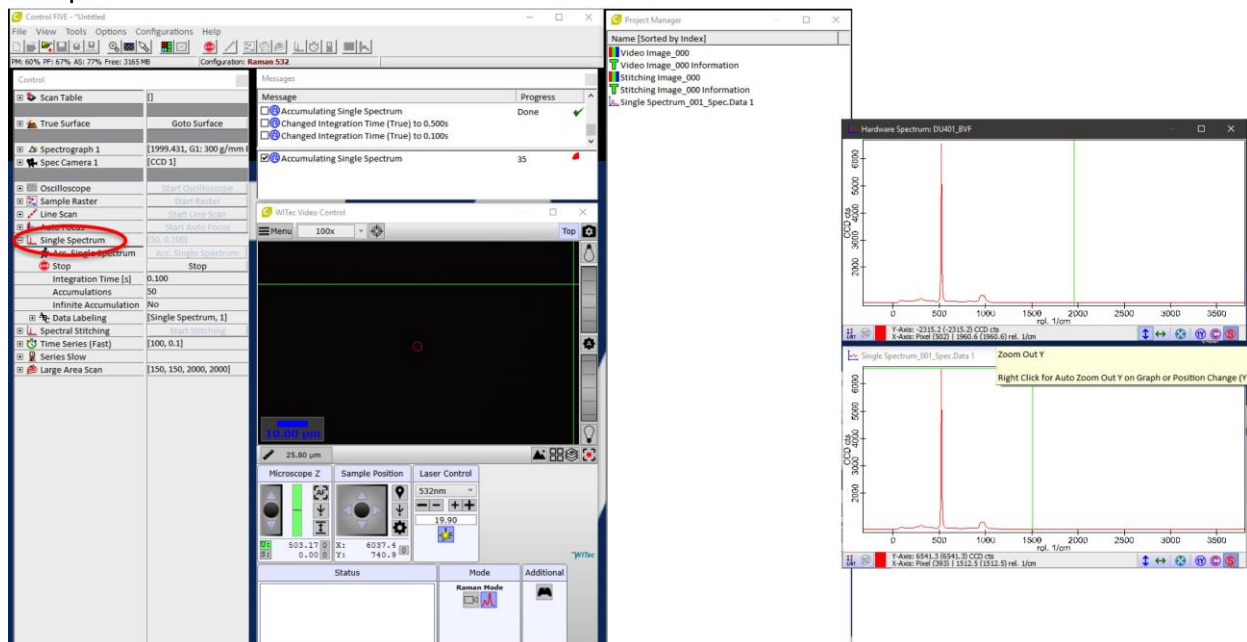

Figure 7
- 10) Expand **Single Spectrum** in **Control** window (Fig 7), set parameters based on the oscilloscope testing: integration time and laser power. Accumulation could be set to smaller numbers (10-30) for samples with strong Raman signals and larger numbers (100-150) for sample with weak Raman signals, e.g. protein/peptide. Click Acc. Single Spectrum to start. The up-right spectrum (Fig 7) is live single acquisition (oscilloscope) and the low-right one is accumulated spectrum.